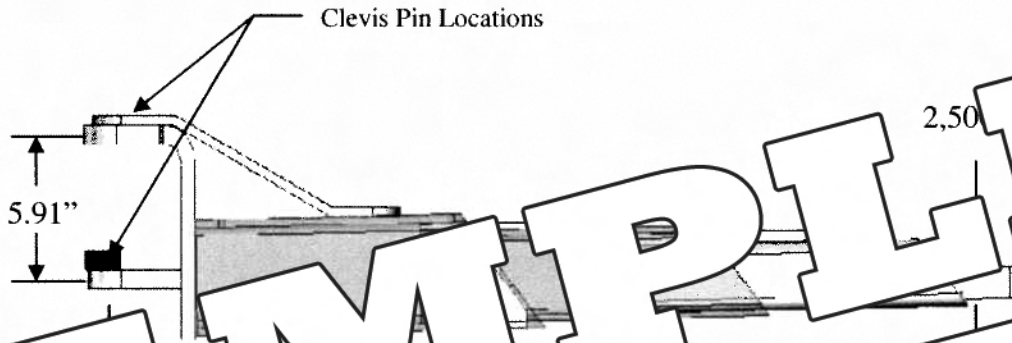

Figure 5: Lift Arm
**Figure 5:** Sheave with Side Load due to 90 Degree Cable Routing. Pulley Bushing Friction Included. Side Load Creates a Bending Moment on Sheave Bracket and Weld. Refer to Appendix A for Pulley Loading.
Force:  $F_{react} = 2,628 \text{ LbF}$  (Refer to Figure 5)